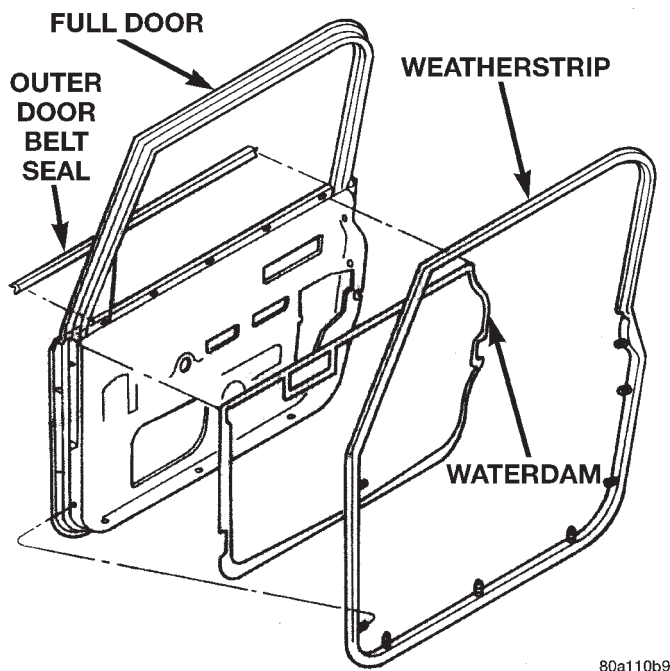

Fig. 31 Full Door Weatherstrip
- (1) Peel the weatherstrip from the channel.
- (2) Separate the weatherstrip from the door.
- (3) If necessary, remove the push-in fasteners attaching the weatherstrip channel to the door and peel the channel from the door (Fig. 31).